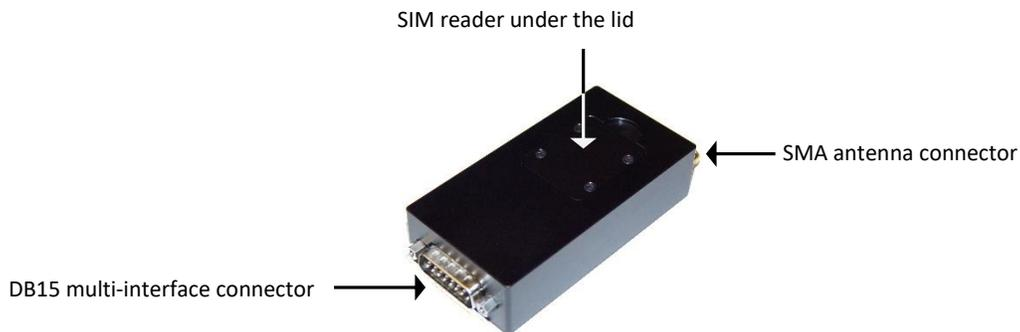

Figure 1: A3LA-RS Modem
The multi-interface connector is a male (DB) 15-pin miniature D-Sub type (see **Figure 1**) that includes four interfaces—RS232, DC input power, ON/OFF control line, and TX_ACTIVE. The multi-interface connector pin assignments are summarized in **Table 1**.